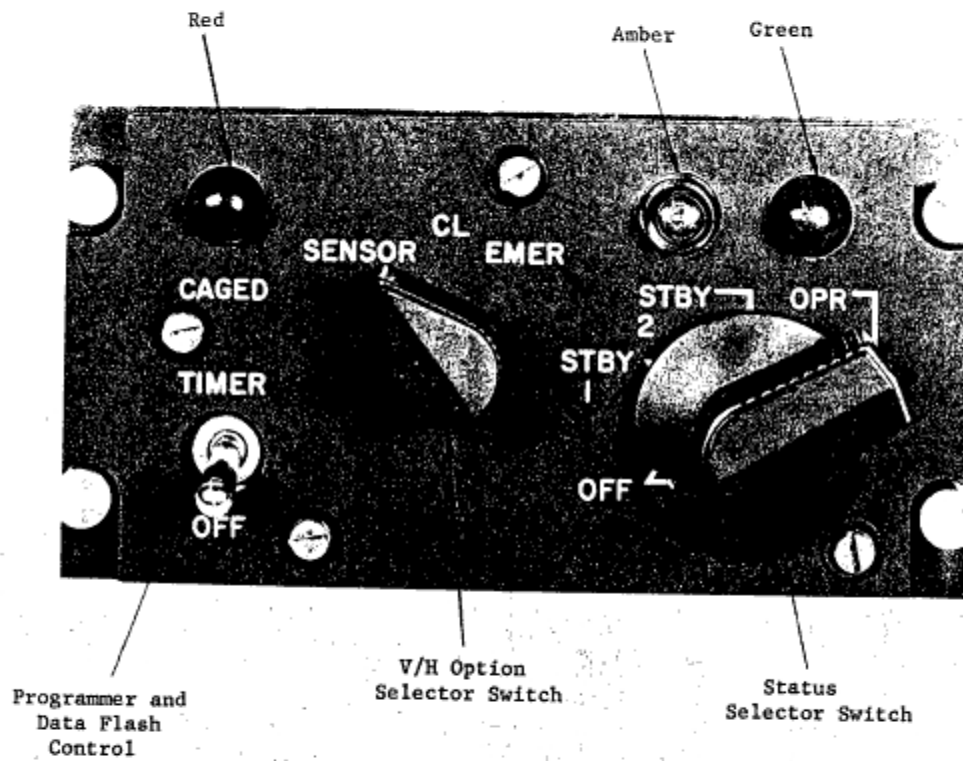

Figure 1-6. Type I Control Panel.
- 1-9. The control panel for the Type I package is shown in Figure 1-6. The control panel is located on the left cockpit console, and occupies an area approximately 6 inches by 3 inches.
- 1-10. The large STATUS selector switch, Figure 1-6, controls the operation of the package. The smaller V/H option selector switch controls the V/H input for camera functions. The TIMER - OFF toggle switch controls the data recording on the film and the automatic exposure control programmer. Three indicators are: CAGED (red), STBY 2 (amber), and OPR (green). Control panel switches and indicators are listed in Table I. Package failure is indicated by a Q-BAY EQUIPMENT OUT indicator (red) located on the warning light panel, center console.